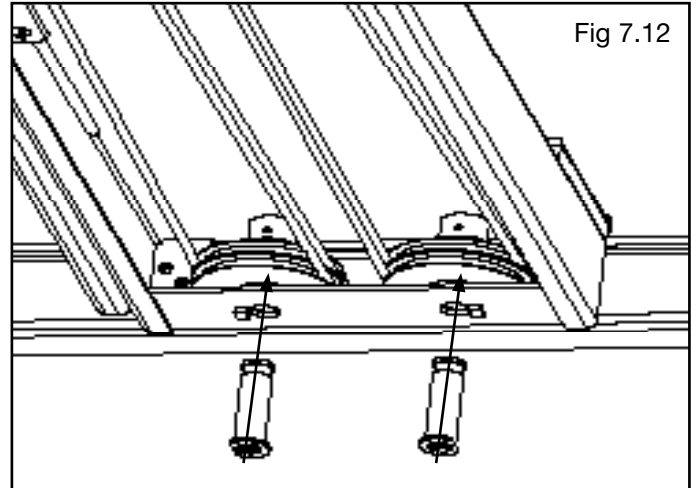

Fig 7.12
4. With the cables properly routed, hold the sheaves in position and install the sheave axle. (See Fig. 7.12)